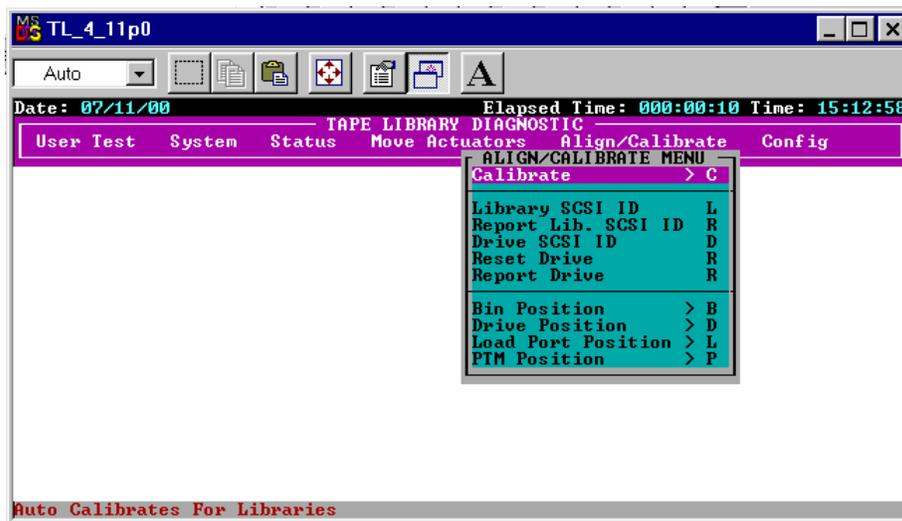

Figure 3-15. Align/Calibrate menu
2. From the Align/Calibrate menu, select Calibrate (see Figure 3-15).